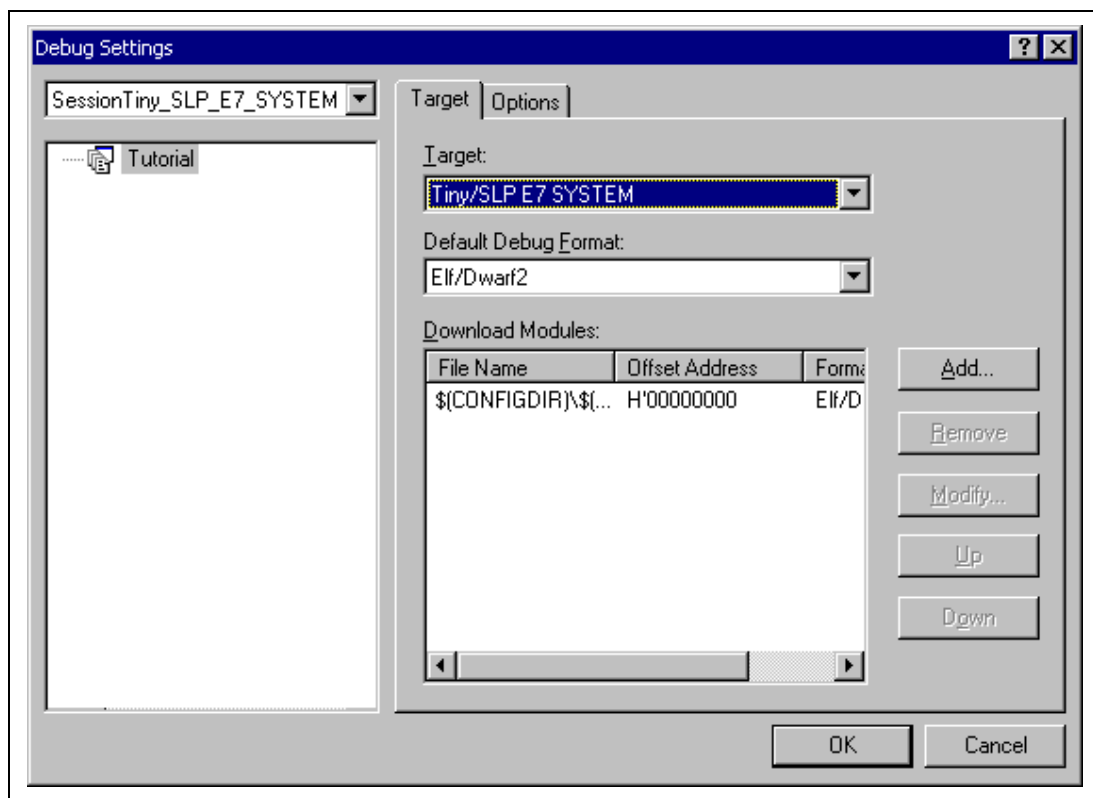

Figure 4.14 [Debug Settings] Dialog Box ([Target] Page)
1. Select [Debug settings] from the [Options] menu to open the [Debug Settings] dialog box ([target] page) (see figure 4.14).